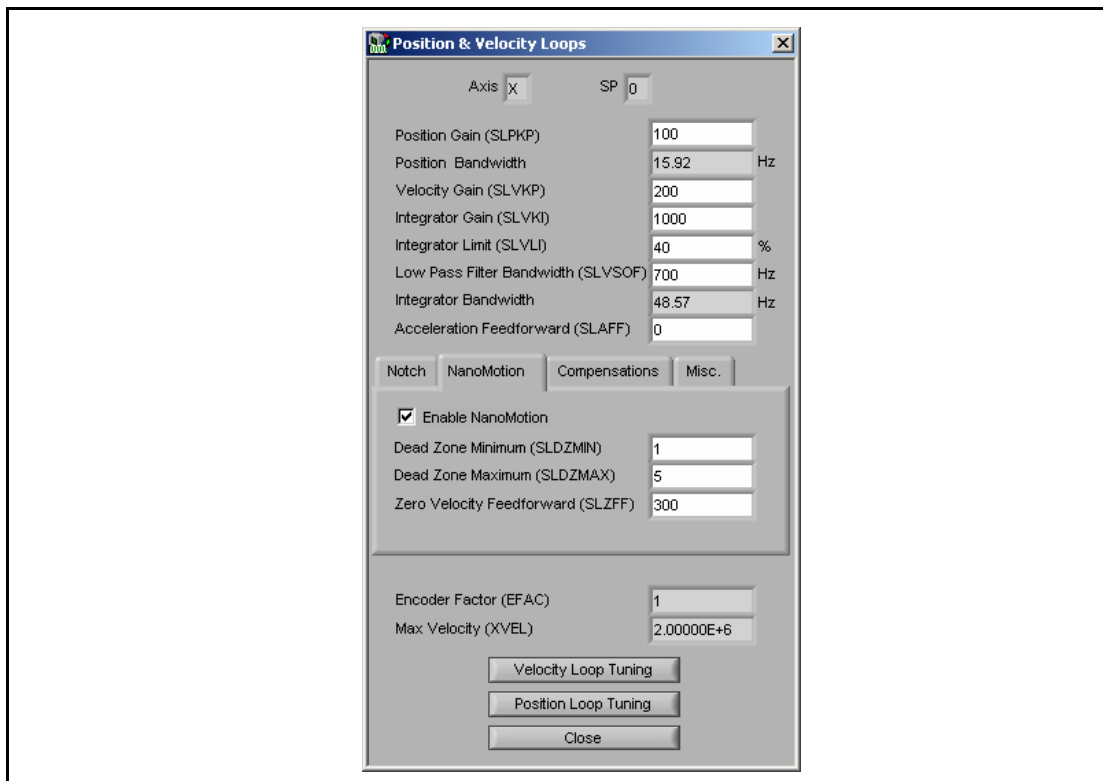

Figure 46 NanoMotion Tab in Position and Velocity Loops Dialog Box
- SPiiPlus MMI → Setup → Adjuster → Position Loop Adjustment → NanoMotion → Enable NanoMotion (Figure 46)
- SPiiPlus MMI → Setup → Configurator → Motor Flags (MFLAGS) → NanoMotion Piezoceramic Motor (7).